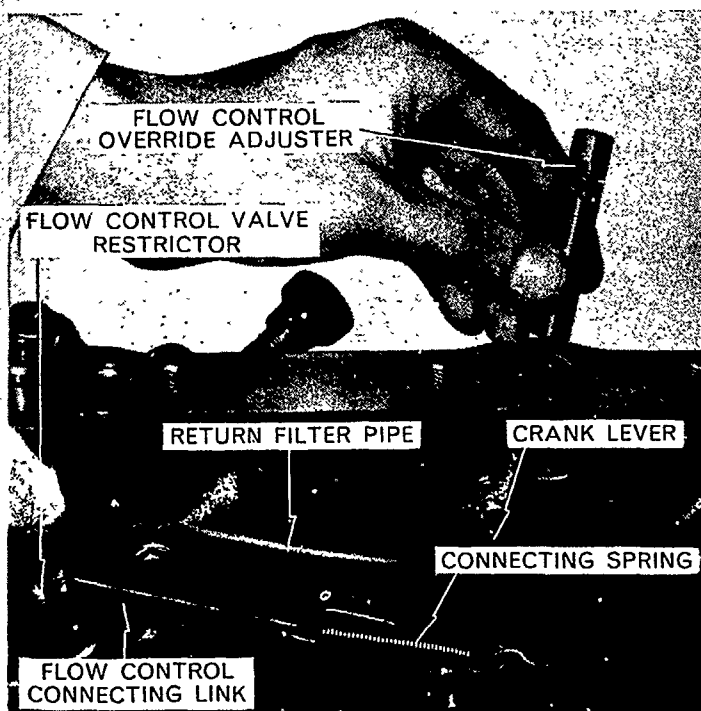

Figure 44
7. Remove the flow control override adjuster and cam follower assembly, Figure 44.
lever with the clevis pin and cotter pin, Figure 44, and to the flow control valve restrictor with a snap ring.